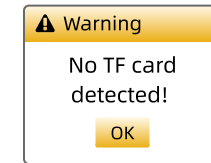

Figure 34
Note: ① "USB storage" can use this function only when the TF memory card exists, otherwise a warning dialog box will pop up (Figure 34), click the middle button to close the dialog box.
② The maximum number of lines displayed in the csv file is 1048576.
③ Do not change and save the content of the .csv file, otherwise the data may be damaged and the instrument cannot view the data. If you need to change it, please copy the file to another place for related operations.